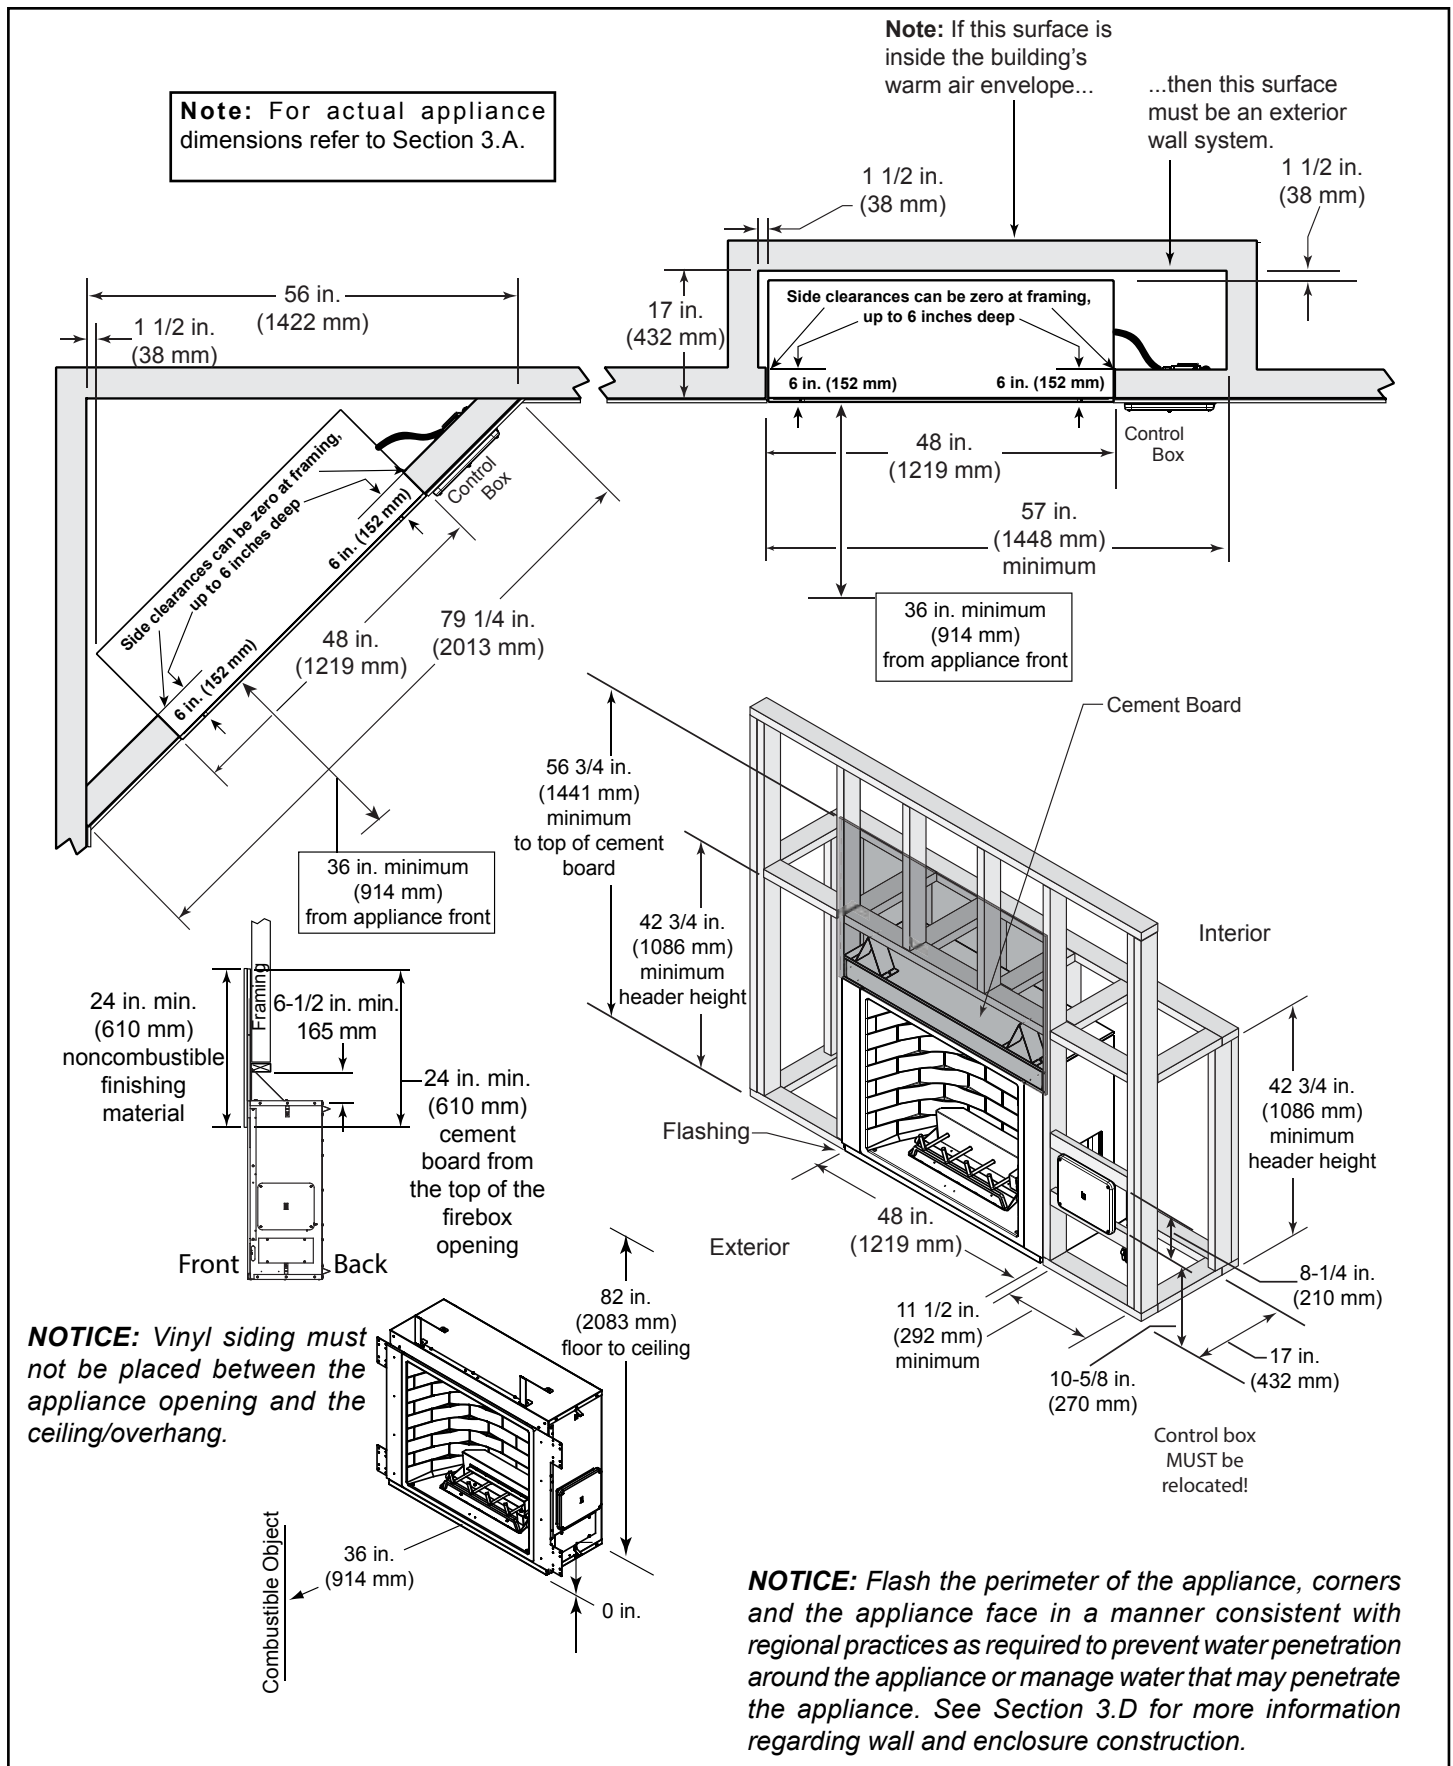
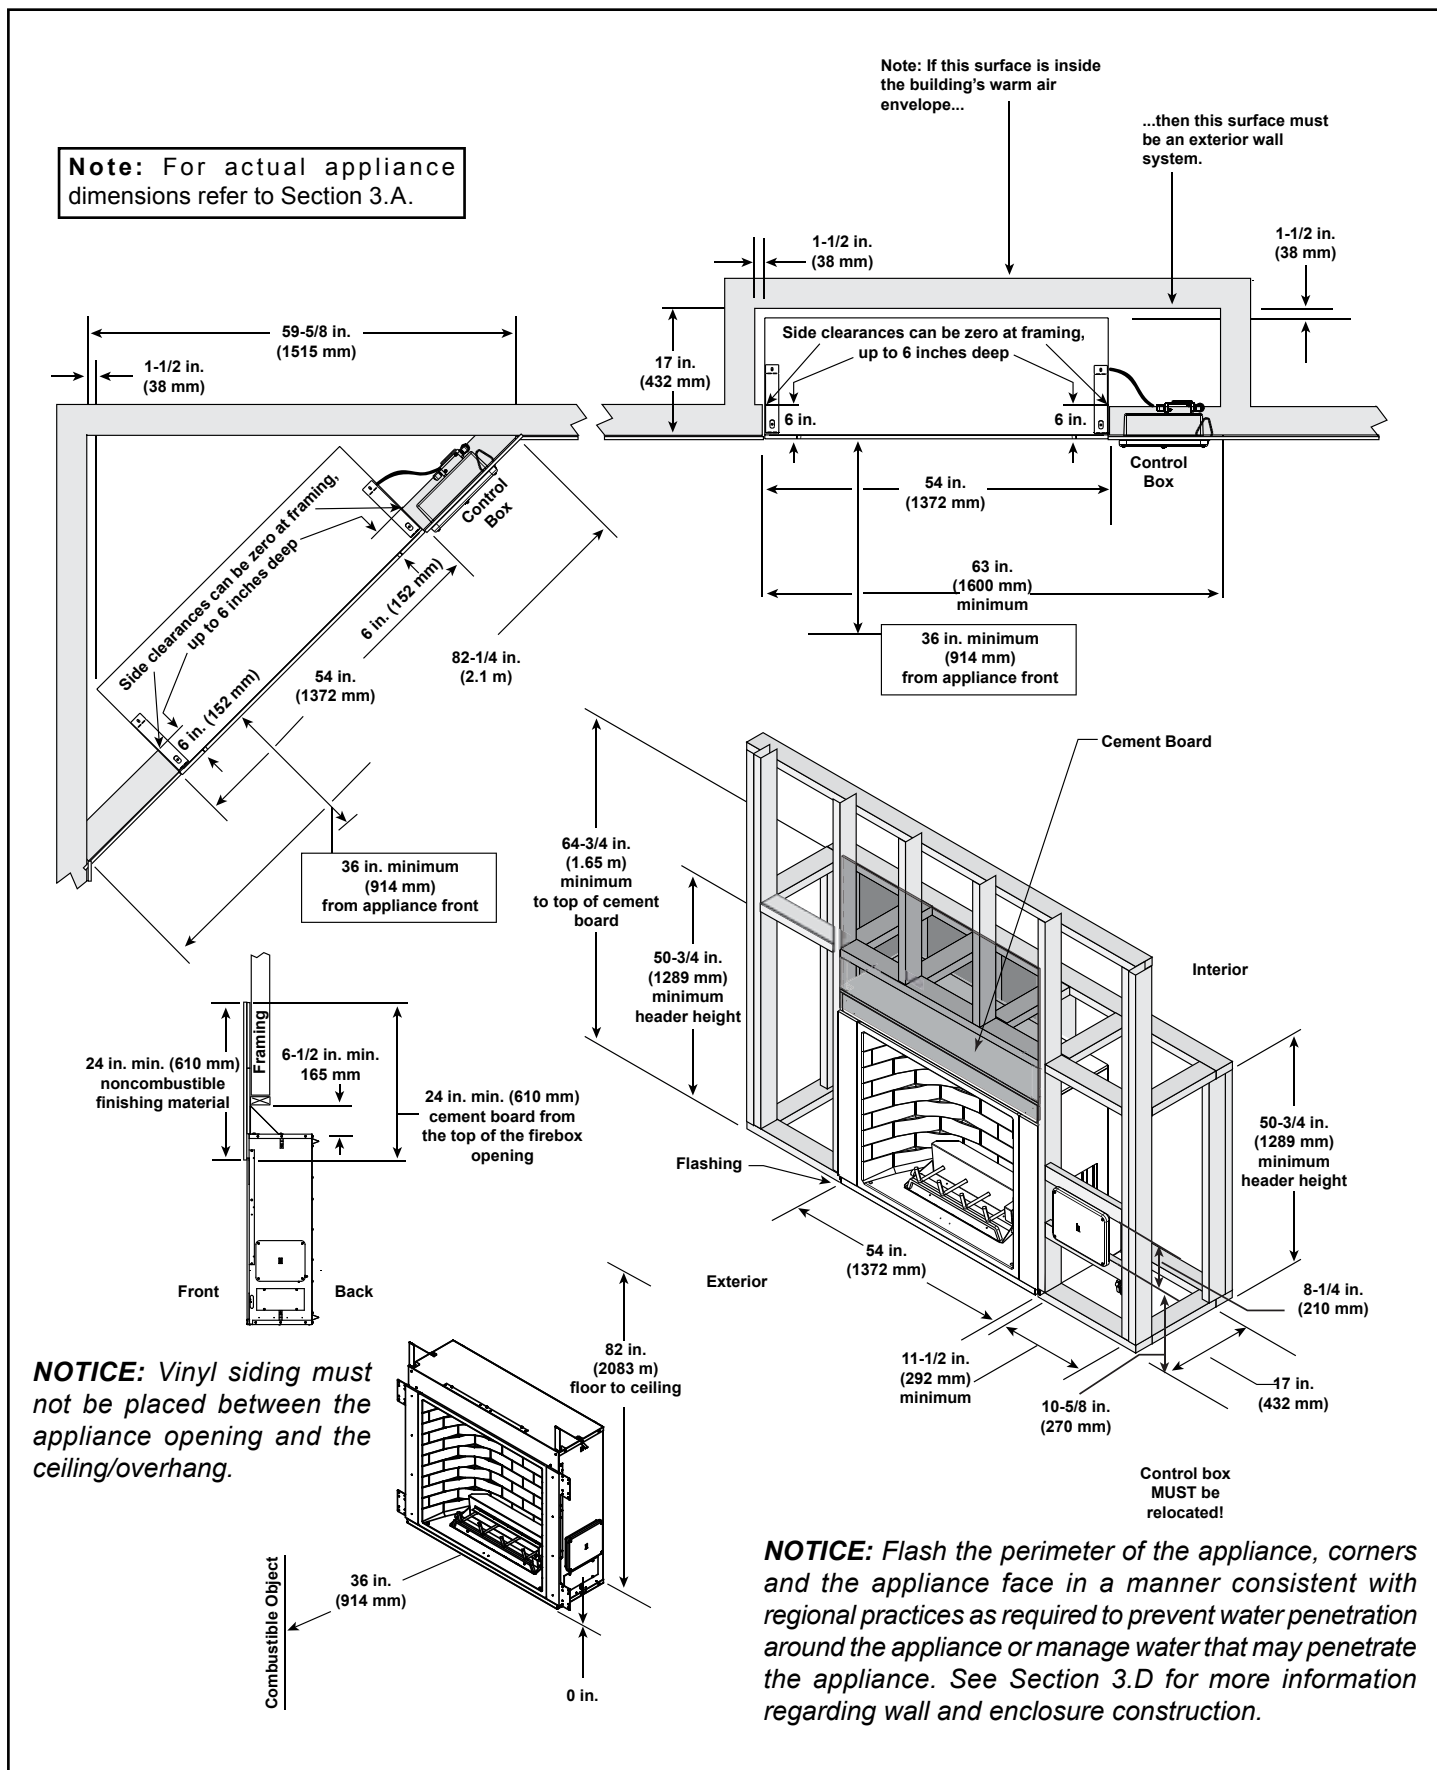
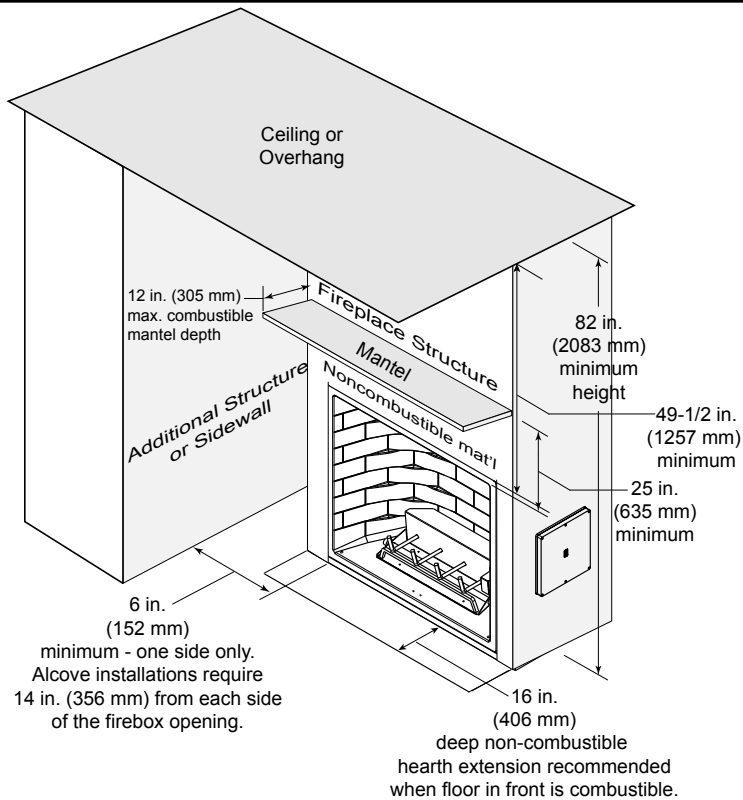

Figure 3.3 Appliance Locations and Framing Dimensions - CARODG36I-C
Figure 3.4 Appliance Locations and Framing Dimensions - CARODG42I-C
Figure 3.5 Clearances to Combustibles
When selecting a location for the appliance it is important to consider the required clearances to walls. See Figure 3.3, Figure 3.4 and Figure 3.5.
- See Figure 3.3, Figure 3.4 and Figure 3.5 for required clearances.
- When installed on wood, a 16" non-combustible hearth extension in front of the appliance is recommended. See Figure 3.5.
- See framing measurements in Figure 3.3 and 3.4.
- You must maintain 1 ½ in. (38mm) air space at the back and sides (except the first 6 inches from the front can be zero to the framing). See Figures 3.3 and 3.4.